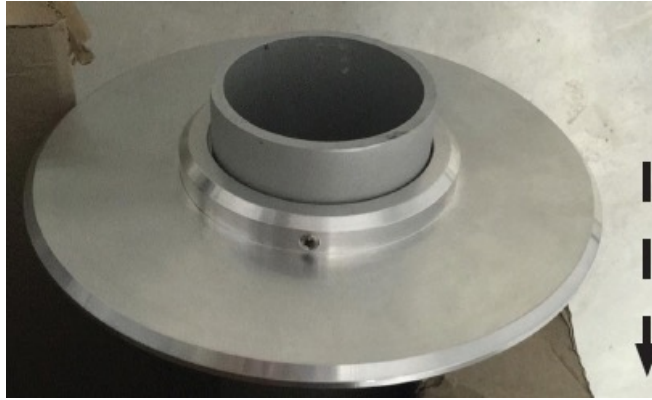

Fig. 10-1: Orientation of Top Adapter Ring
7. Slide the top adapter ring onto the pole. Orient so that the set screws and plastic bumpers face the top of the pole (refer to Figure 10-1).